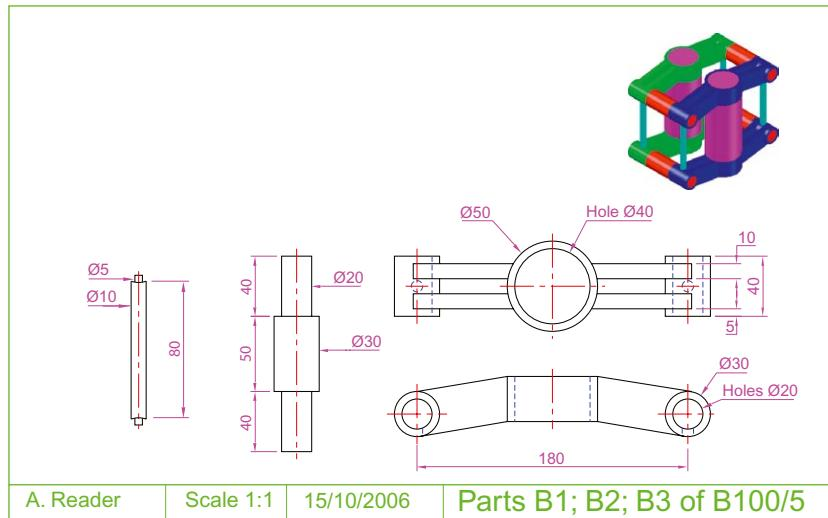

Fig. 19.5 Example – Raster image in a drawing
### **Example – Raster image in a drawing (Fig. 19.5)**
10. Following the details given on page 386 attach **Fig05.bmp** to the drawing at a suitable position (Fig. 19.5).
2. Place the image in position in the drawing area. In Fig. 19.5 the orthographic projections have been placed within a margin and a title block has been added.
1. Open a four-viewport screen of the assembled 3D model shown in the first example (Fig. 19.5).
1. Open the orthographic drawing with its raster image (Fig. 19.5).